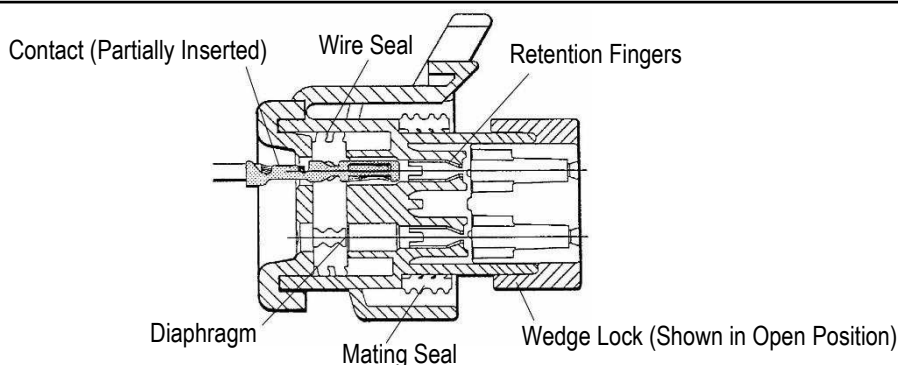

Figure 4
1. To insert a contact, push it straight into the appropriate circuit cavity until the retention fingers have engaged the contact (see Figure 4). Take care to not push the terminal past the retention fingers.
2. Pull back on the contact wire with a force of 4.45 or 8.9 N [1 or 2 lb-force] to be sure the retention fingers are holding the contact (see Figure 4).